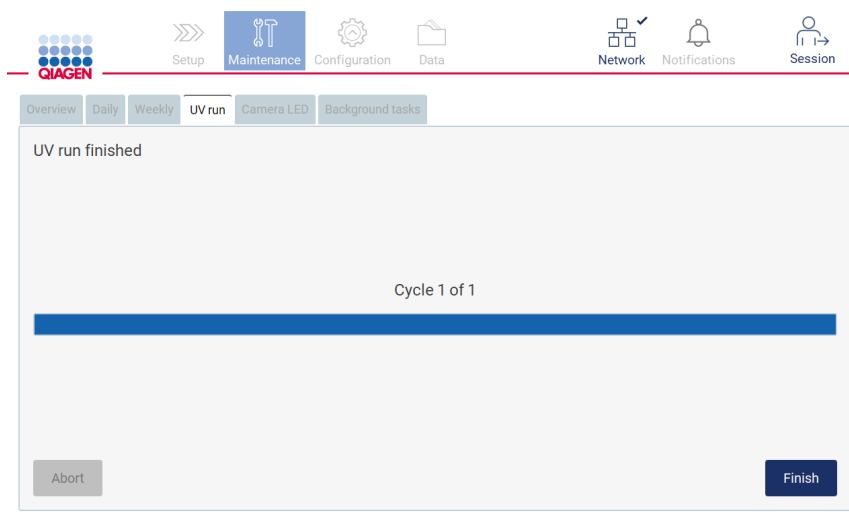

Figure 194. UV run finished screen.
7. A message (see the Figure 194 below) is displayed after execution of the UV run. Tap **Finish** to complete the UV run.